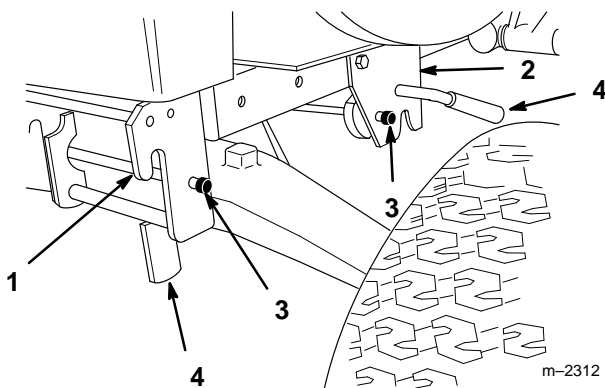

Figure 1
3. Open front and mid-mount hitches by pushing release button and moving lock handles forward (Fig. 1).